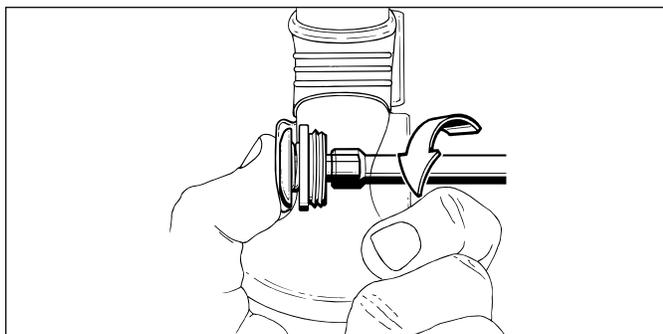

Figure 9
1.1.30 While holding the oral valve button lightly depressed to prevent the ejection of parts, apply a 1/4" nut driver to the stem of the oral button poppet(23). While holding the nut driver securely engaged, turn the oral poppet counter-clockwise to loosen and remove the oral bezel(25) (see Fig. 9). When the bezel has disengaged the body, slowly relax the button to allow the button cover(22), button poppet(23), spring(24), and bezel to fall out.